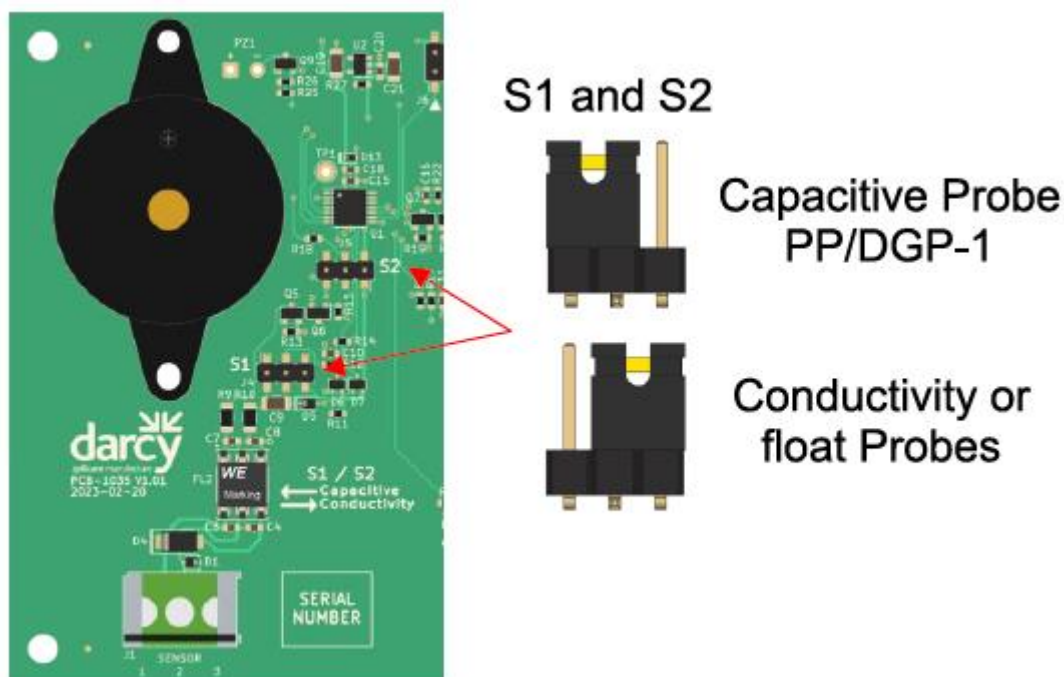

Figure 4 - Jumper link settings
8. Set the jumper links according to the probe type being used. See Figure 4.